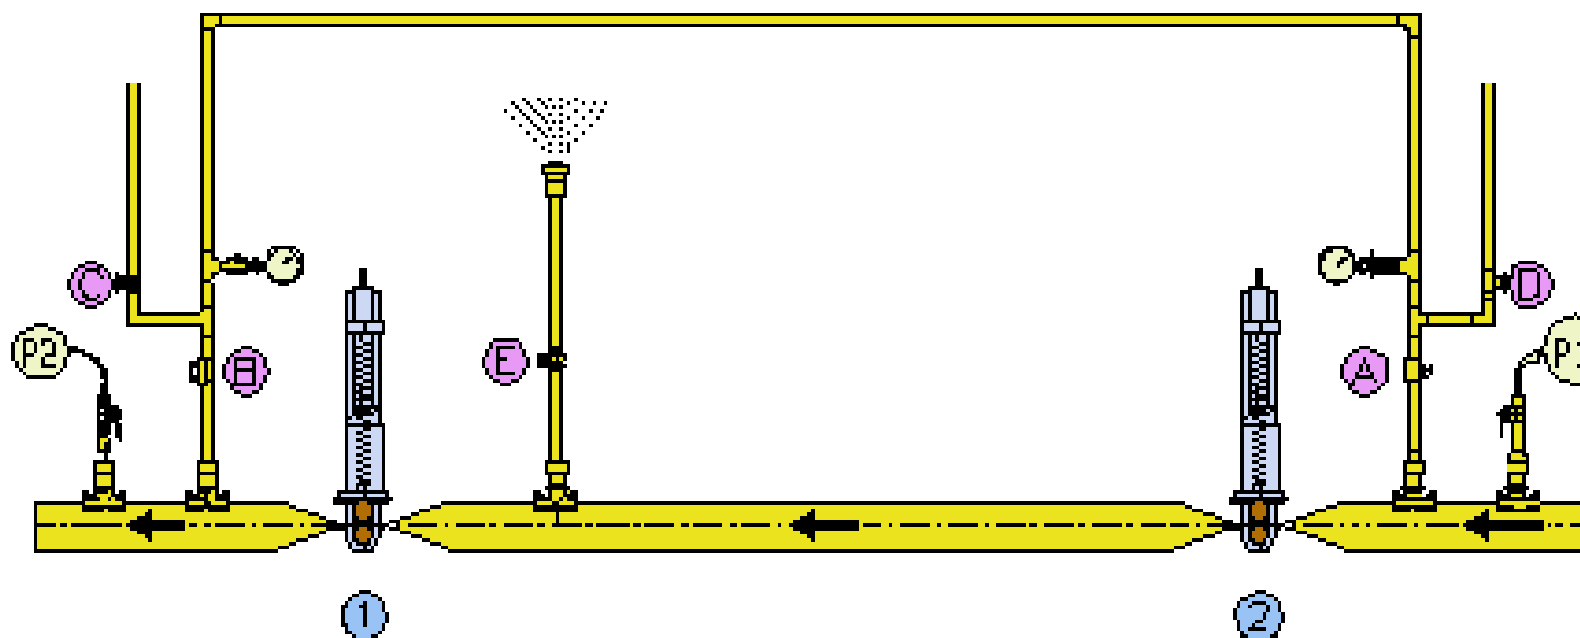

Figure 47- Squeeze-Off (2)
8. Slowly apply upstream squeeze-off unit 2. Continuously monitor pressure at both pressure gauges. See Figure 47.